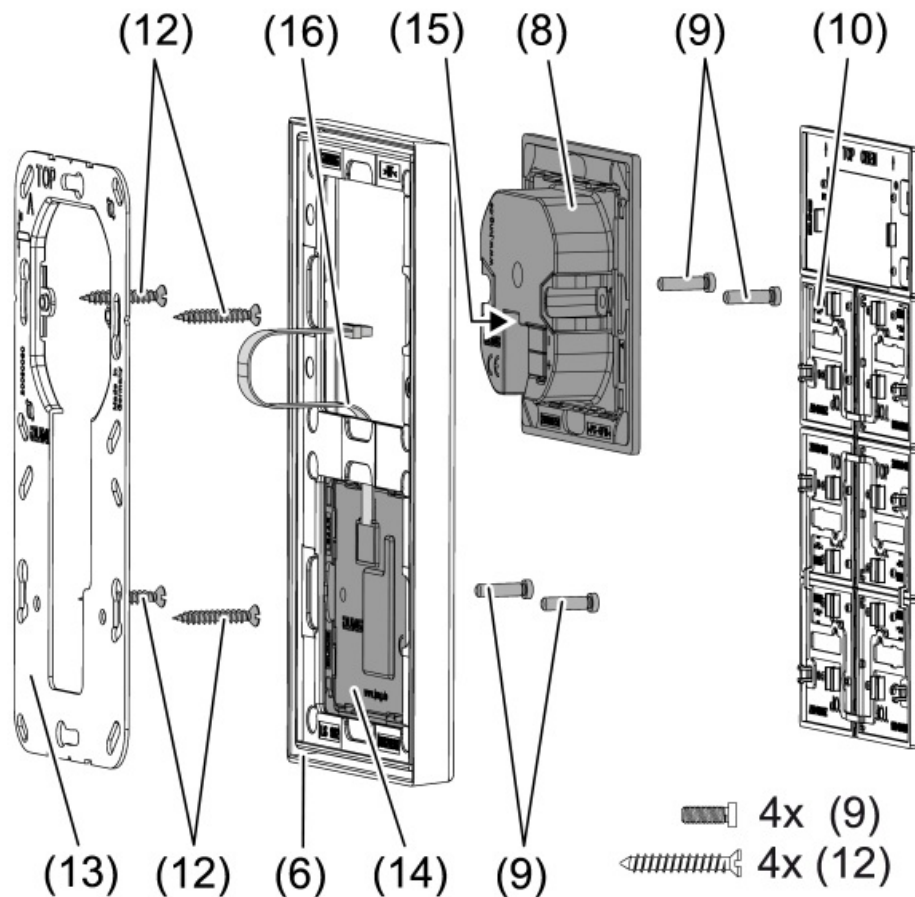

Figure 3: Mounting with push-button sensor extension module
When the push-button sensor extension module is used (see Figure 3): preferably mounted vertically. Use a large supporting frame (13). When mounting on only one appliance box, countersink the lower screws into the wall, e.g. with a $\varnothing 6 \times 10$ mm hole. Use a supporting frame as a template.
- Mount supporting frame (5) or (13) in the correct position onto an appliance box. Note marking TOP = at the top; marking A or B in front. Use only the enclosed box screws (12).
- Push frame (6) onto the supporting frame.
- Mount the push-button sensor extension module (14) preferably below. Route connecting cable (16) between supporting frame and intermediate web.
- Push-button sensor extension module: Insert connecting cable (16) in the correct orientation into slot (15) in the controller module. Do not crimp the connection cable (see figure 3).
- Connect the controller module (8) to the KNX using the KNX device connection terminal (11) and push it onto the supporting frame.
- Fasten the controller module (8) and push-button sensor extension module (12) to the supporting frame using the enclosed plastic screws (9). Tighten the plastic screws only lightly.
- Before mounting the control surfaces (10), load the physical address into the device (see Chapter 5.2. commissioning).